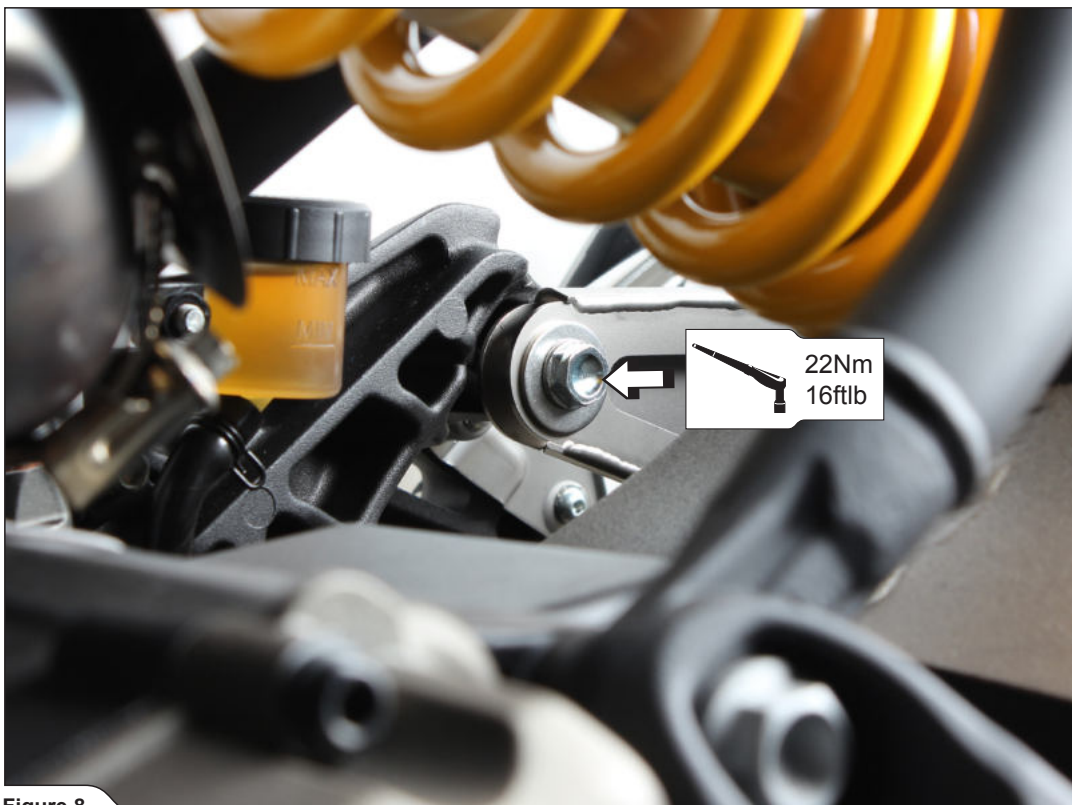

Figure 8
- Align the muffler in respect to the motorcycle and tighten the muffler's bracket bolt, Akrapovič clamp and stock clamp to the specified torque (Figure 8, 9, 10).